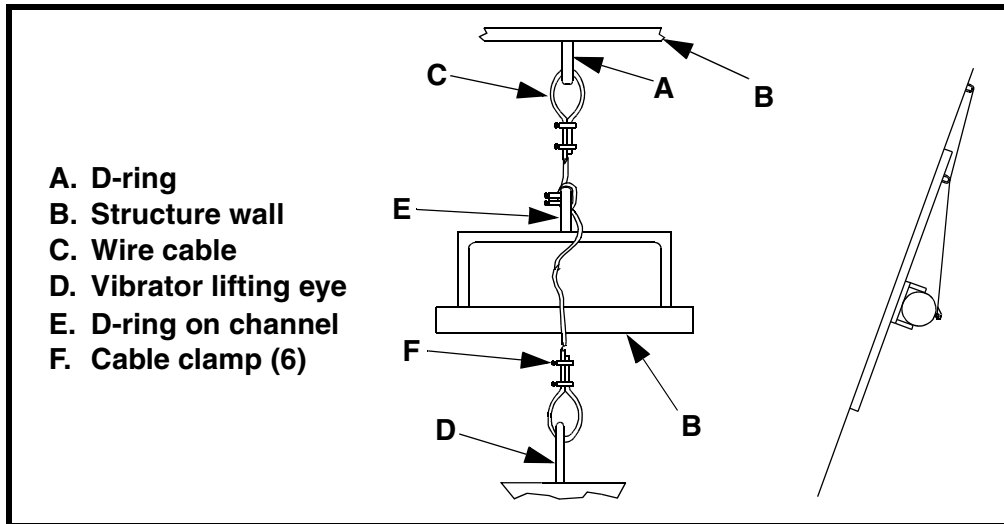

Figure 4. Installing Restraining Cable
- a. Weld D-ring (A, Figure 4) onto structure wall (B) above vibrator.
- b. Loop 1/4-in. (6 mm) wire cable (C) through vibrator lifting eye (D) and D-ring on structure wall.
- c. If using a mounting plate and channel assembly, also loop cable through D-ring on channel (E) as shown. Take up slack so cable is taut.
- d. Apply thread-sealing compound to nuts on cable clamps (F). Install six cable clamps (two on each end and two on loop around D-ring on channel) to secure cable to vibrator eye and D-rings. Tighten nuts on cable clamps.